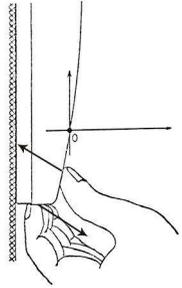

Figure 2. How to Open the Front Cover
2.1.6 Remove the front cover of the module by bending it relative to point «0» in accordance with Figure 2. Place your thumbs over the clips as close to the point «0» as you can.